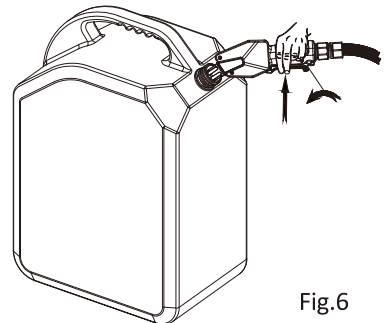

Fig.6
2. Align the nozzle with the target position where the liquid is to be removed, press the handle, and push the normally open lock upward to lock the handle, as shown in Fig 6.